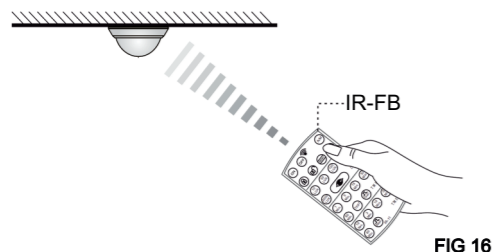

FIG 16
6.1 The detector can also be controlled by the infrared remote control to make the operation more easier and convenient (See FIG.16)